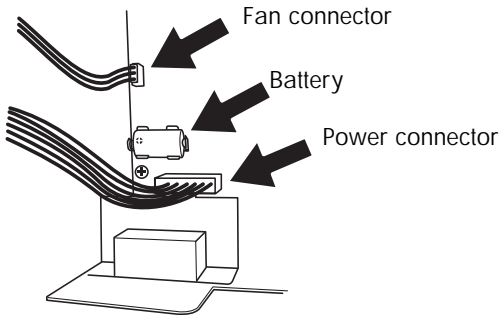
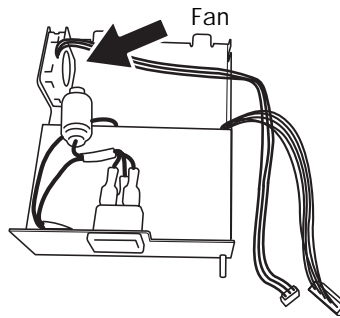

Figure 10.2.1a
Figure 10.2.1b
Figure 10.2.1a shows the locations of the battery, the fan connector and the power connector. Figures 10.2.1b and 10.2.1c, show the high voltage ac/dc supply and low voltage dc supply units, respectively, with cover removed. It is recommended that the cover be removed only if absolutely necessary, because the (latching) power connector is difficult to disconnect/reconnect.
1. Once the cover is open, the exhausted battery (located as shown in figure 10.2.1a) can be prised out of its holder, and the replacement fitted.